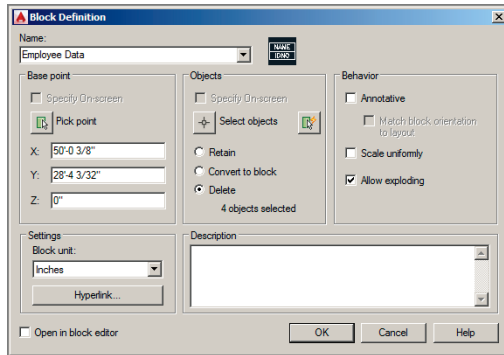

FIGURE 15.12 Defining a block with attribute definitions
13. Click the Select Objects icon, click the NAME attribute definition, and then click IDNO. Select both rectangles, and press Enter. Click the Delete radio button in the Objects area of the Block Definition dialog box, and select Inches (or Centimeters) in the Block Unit drop-down menu (see Figure 15.12). Click OK and the attribute definitions and geometry disappear as expected.